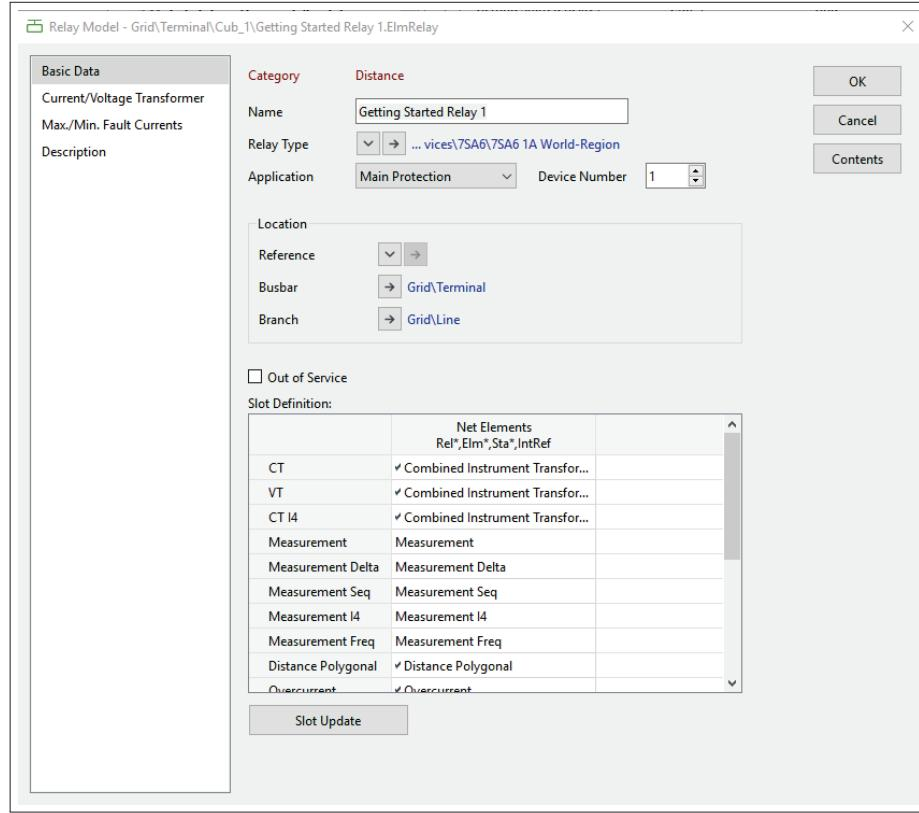

Figure 24.16.10: Relay dialog
- select an appropriate *Relay Type* which supports *StationWare* import/export (see Figure 24.16.10),